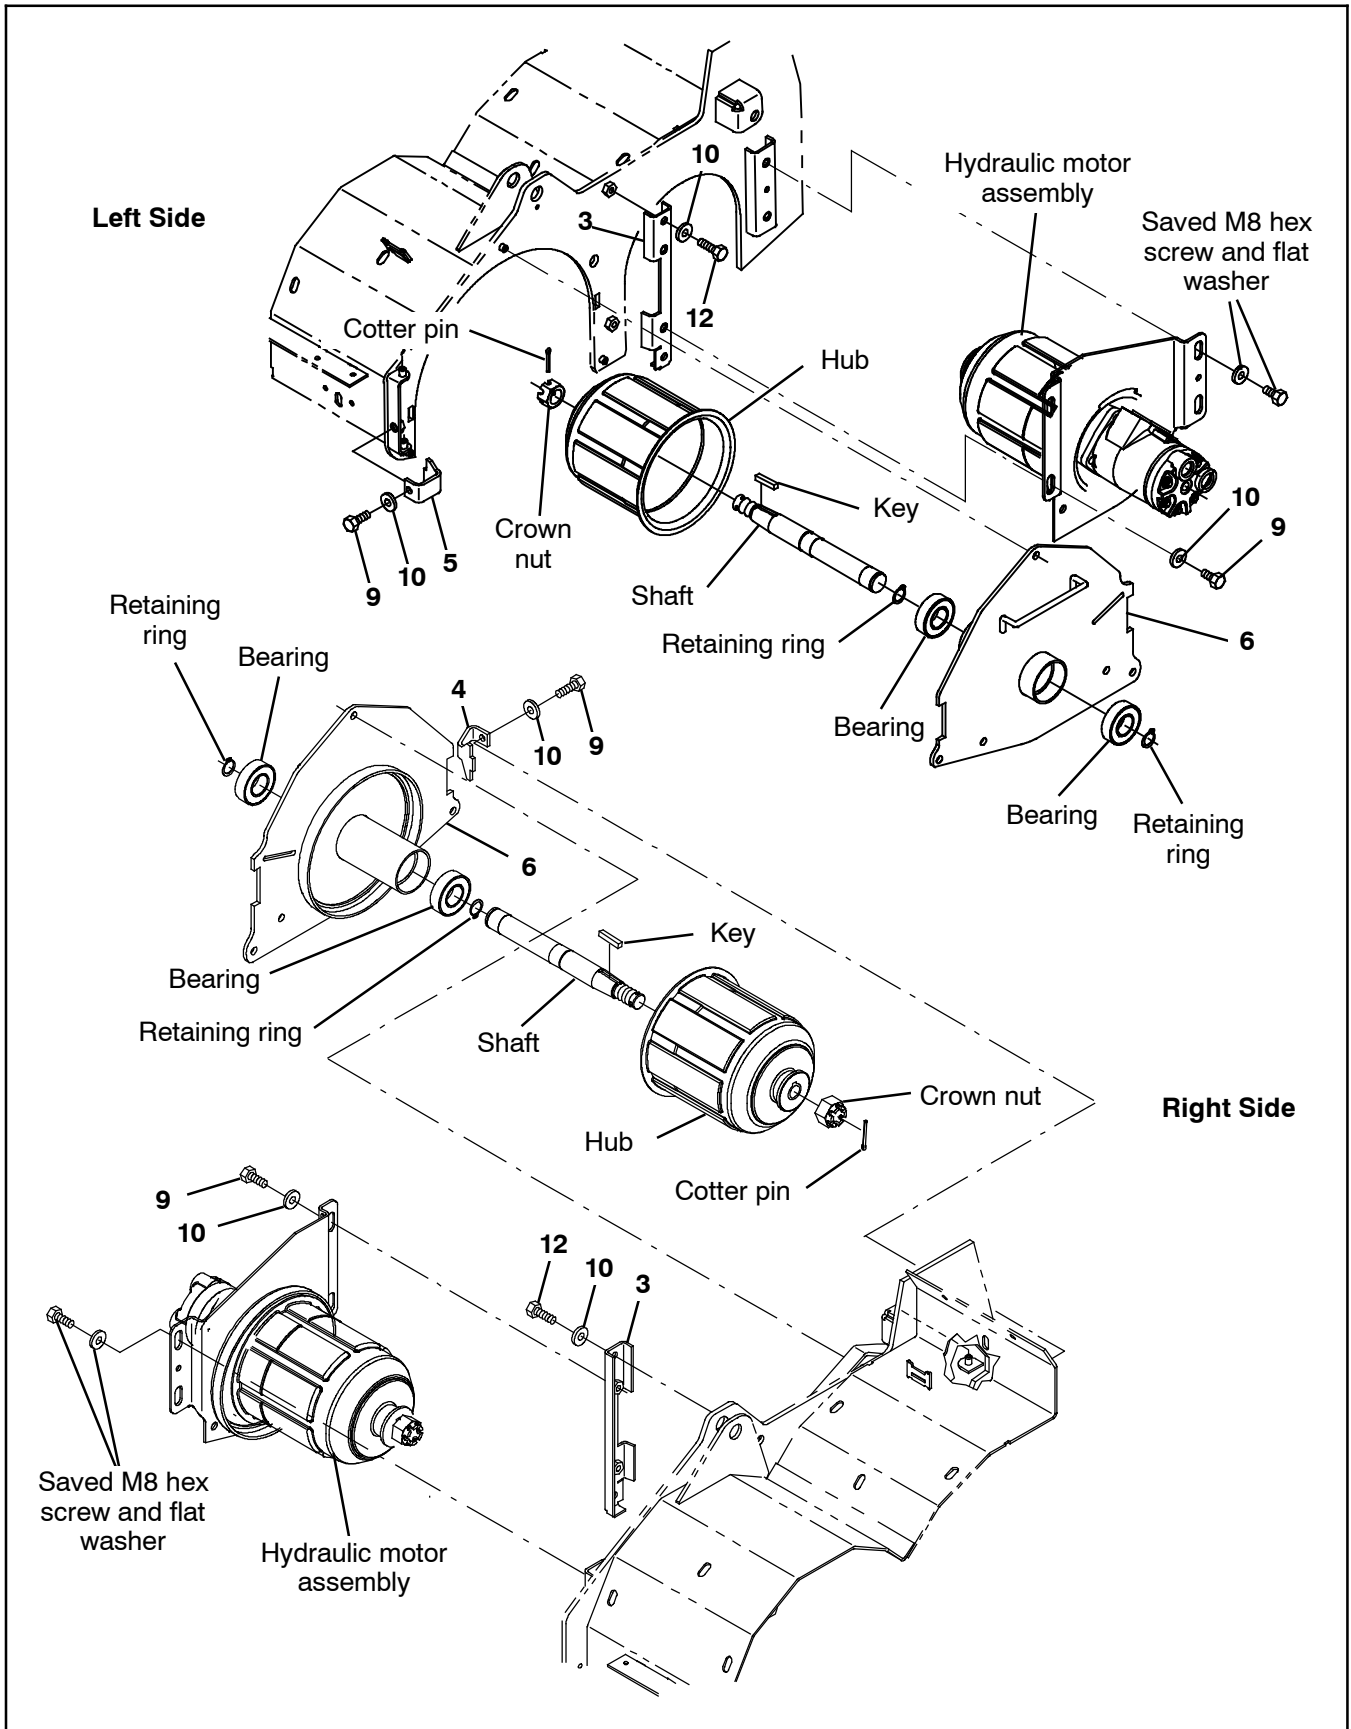

FIG. 9
18. Use two M8 hex screws (12) and two flat washers (10) to install a support bracket (3) onto the right brush wrap bracket (1) and left brush wrap bracket (2). (Fig. 9)
19. Use one M8 hex screw (9) and one flat washer (10) to install the right retainer (4) onto the right brush wrap bracket (1). (Fig. 9)
20. Use one M8 hex screw (9) and one flat washer (10) to install the left retainer (5) onto the left brush wrap bracket (2). (Fig. 9)
21. Press two bearings into each brush idler plate (6). (Fig. 9)
22. Insert a key into each shaft. (Fig. 9)
23. Insert a shaft into each brush idler plate (6) and use two retaining rings to secure each shaft in the idler plate. (Fig. 9)
24. Install the hub onto each brush idler plate (6) and use a crown nut and cotter pin to secure the hub onto each brush idler plate. (Fig. 9)
25. Use two saved M8 hex screws, two M8 hex screws (9), two saved flat washers, and two flat washers (10) to install each hydraulic motor assembly onto the scrub head. (Fig. 9)